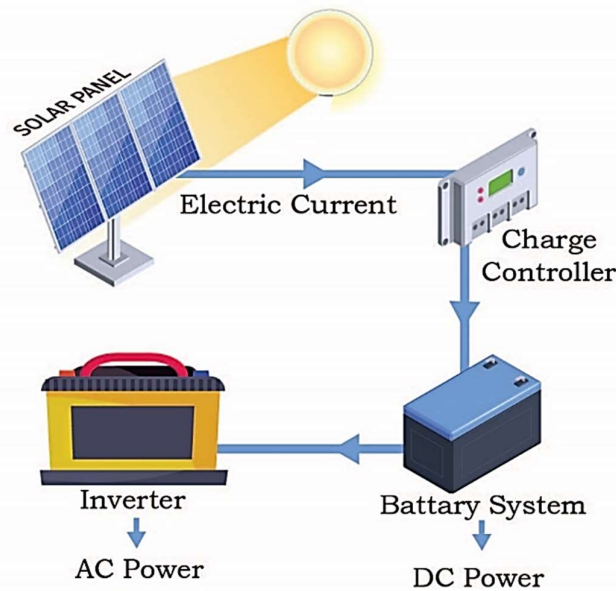

Fig. 1.3: Solar energy generation system through the solar panel
Commercial residential PV modules typically produce between 10 watts and 400 watts of direct current (DC). To use this power for everyday electrical devices and to connect to the electric grid, a PV module needs an inverter to change the direct current into alternating current (AC). PV modules can also be used in solar power plants. The method of using solar energy is illustrated in Fig. 1.3.